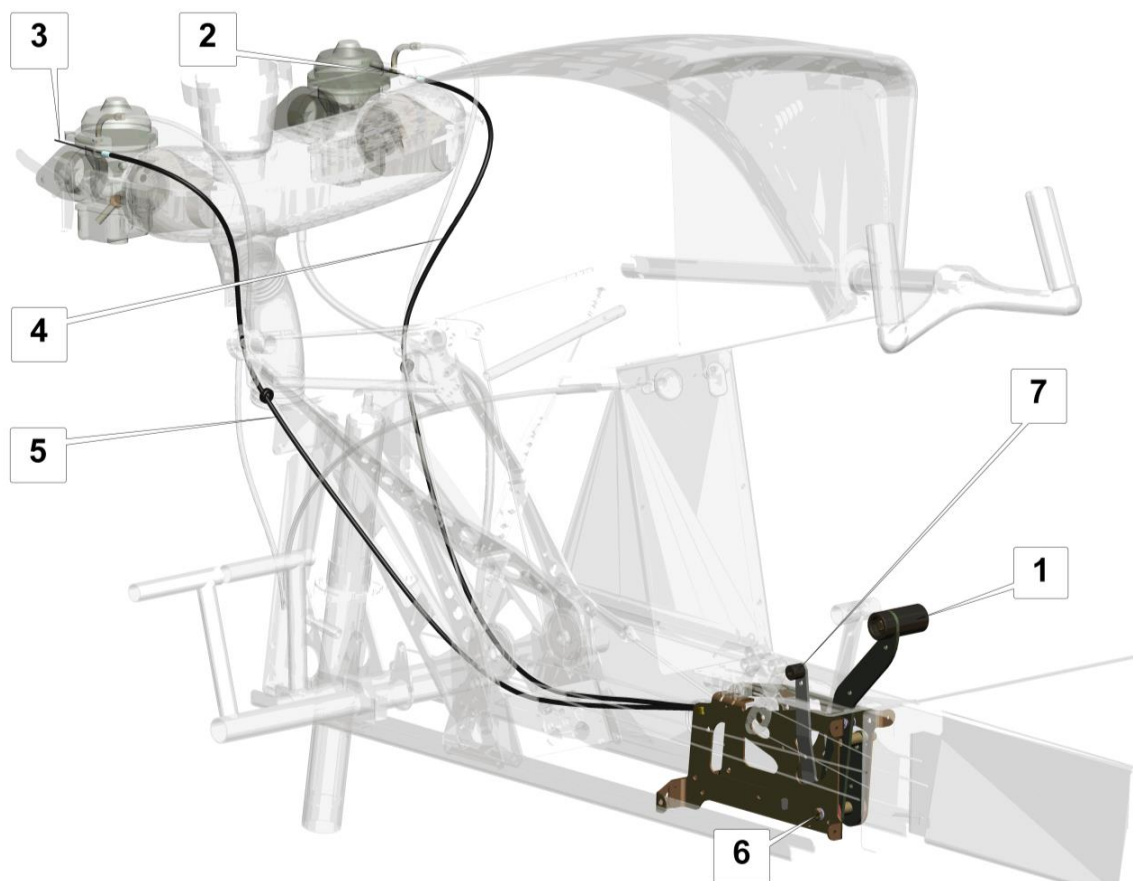

Fig. 9 Engine RPM controls
The engine RPM control (**Fig. 9**) is achieved using the throttle lever (1) connected with the cables to the throttle control arms of the right (2) and left (3) carburettor. The cables are passed through the flexible sheaths – the right (4) and the left (5) one. The throttle lever friction force can be adjusted on the ground by tightening the bolt (6) or in flight – using the friction force adjusting lever (7).